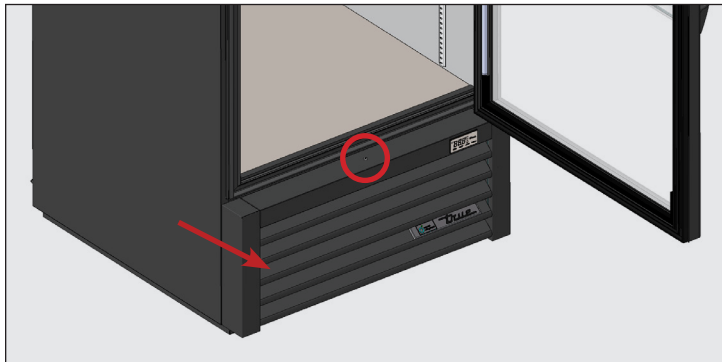

Fig. 1. Front louver grill screw location. Carefully remove the grill.
2. Remove the front louvered grill from the appliance. See fig.1